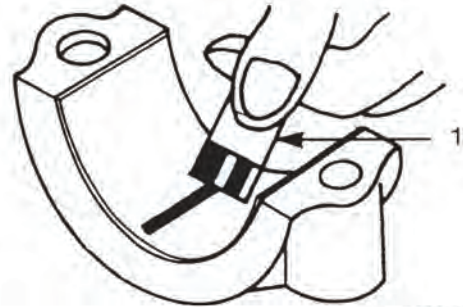

Figure 179
- F. Compare the width of the flattened PLASTIGAGE to the graduation marks on the package (Figure 179, 1). The mark that most closely matches the width of the flattened PLASTIGAGE will indicate the bearing oil clearance.